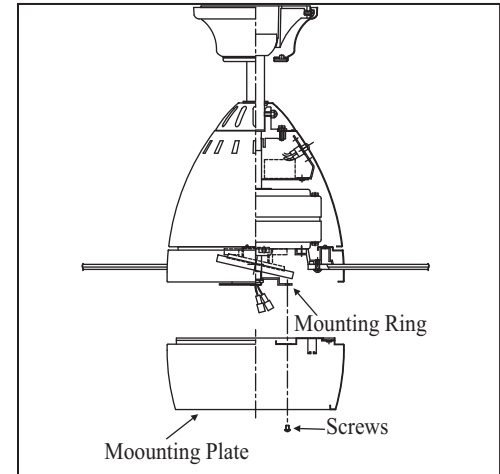

Figure 21
2. Place the key holes on the mounting plate over the 2 screws previously loosened from the mounting ring, turn mounting plate until it locks in place at the narrow section of the key holes. Secure by tightening the 2 screws previously loosened and the one previously removed. (Figure 21)